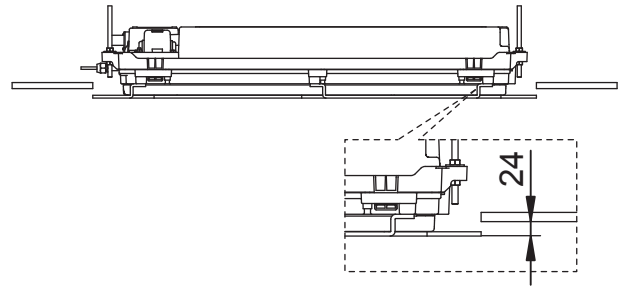

Figure 4.12
- 4.4) Verify that the level difference between the lower side of the ceiling and the lower side of the installation paper is about 24 mm (see Figure 4.12). The hoisting height of the air conditioner is not correct if this requirement is not fulfilled.[AD1]